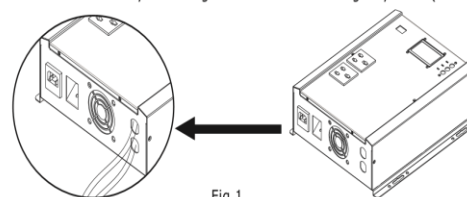

Fig.1
Step3: Tight the battery cables with the M5 nuts .Do NOT place anything between the flat part of battery terminal and the battery cable ring terminal or overheating may occur.(See Fig.1)